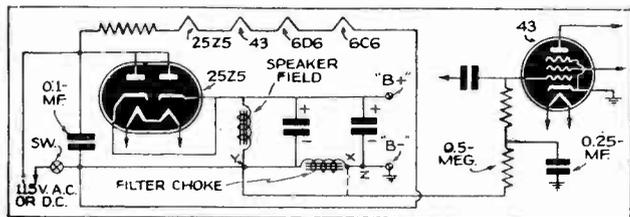

Fig. 5. Another power-supply circuit with the filter choke in the negative plate-supply lead.
Another power pack circuit using a 25Z5 rectifier tube is shown in Fig. 5. Here the filter choke is placed in the negative plate supply lead, and the voltage drop across the choke is used as C bias for the control grid of the power tube. When the voltage drop across this choke is not correct for biasing purposes, a resistor is inserted between points x and z in Fig. 5, and the control-grid return lead of the power tube is run to point x, as indicated by the dotted line, instead of point y. The ohms value of the inserted resistor is so chosen that the voltage drop across the resistor equals the correct bias voltage for the tube. Notice that the cathode of the power tube is grounded, eliminating the need for a cathode bypass condenser and resistor. A decoupling resistor and condenser are required in the control-grid circuit of this tube, however.
**Filter Condenser Connections.** When the filter choke is in the positive side of the power pack circuit, all electrolytic condensers will have a common negative lead. When the filter choke is in the negative side of the circuit, however, the negative side of the input filter condenser does not connect to ground (chassis) and consequently requires a separate lead. In this case the 2 filter condensers may have a common positive lead, as is the case in Fig. 5.